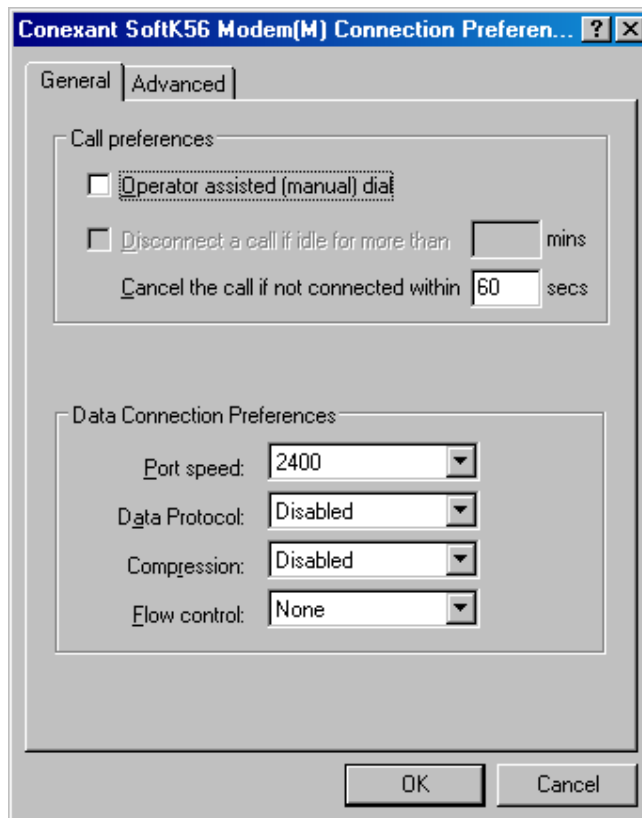

Figure 18 - Configure Modem Screen (for Windows XP)
- Select the *Configure Modem* option. The connection details will be displayed along with the *Modem Settings* screen – See Figure 18.